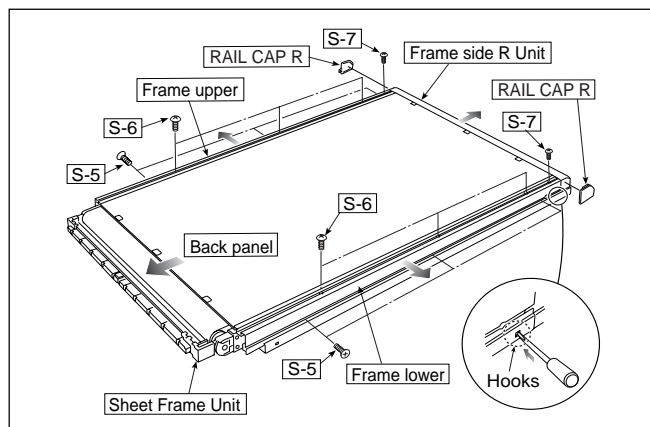

Fig. 3
- 3) Remove the Frame side R Unit. (See Fig. 3)